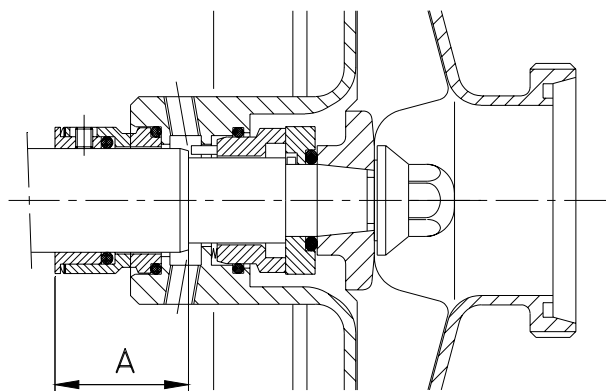

Figure 8.2: Cooled mechanical seal
- Slide the rotating part of the external mechanical seal (08B) over the pump shaft (05); refer to Table 8.3, Figure 8.2 for the assembly distance.
- Fit the pump cover (03A) on the lantern (04). The stationary part of the external mechanical seal (08C) needs to be previously inserted into the rear part of the cover. The assembly of the internal mechanical seal should be done according to the section on "Assembly of the single mechanical seal".